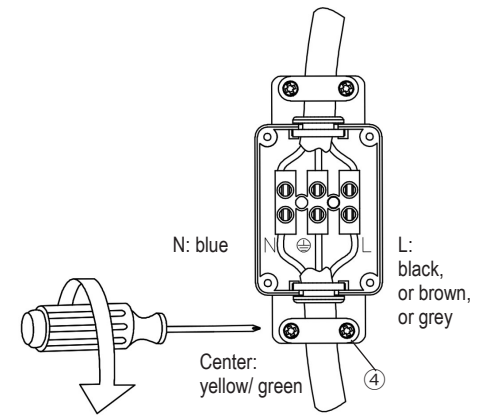

fig. 2
fig. 2: Prepare the cable in accordance with statutory regulations. Loosen the 4 screws of the junction box ①, open the box and connect the wires according to the marks and seal the cable properly. Fasten the strain relief ④ with the 2 screws.